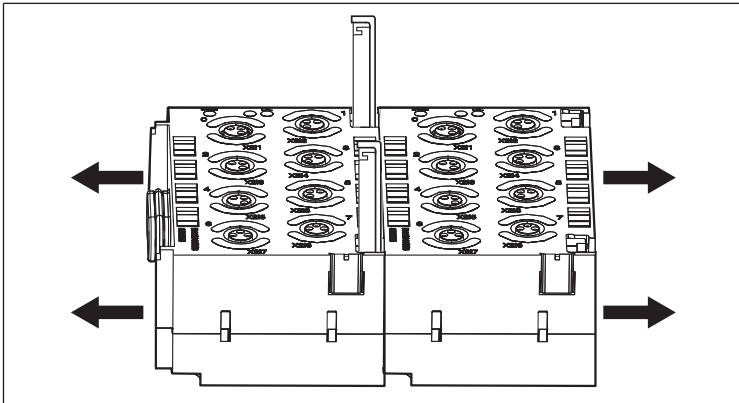

Fig. 7: Separate the modules
4. Pull all of the components away towards the left until they are no longer connected (see Fig. 7: Separate the modules).